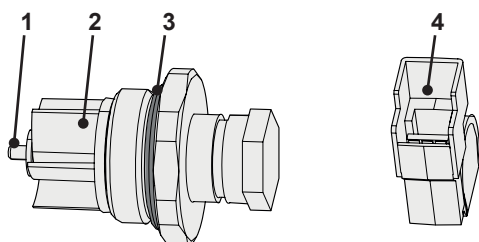
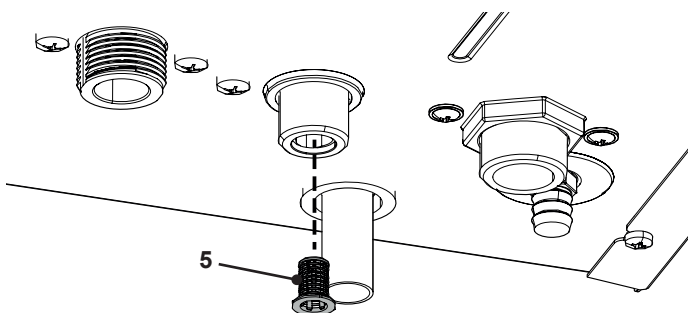

Figure 14.2
Figure 14.3
### 14.2 Description and location of parts - (Figure 14.2 - Figure 14.3)
- 4 Check that body with flow meter turbine "2" (Figure 14.2) rotates freely.